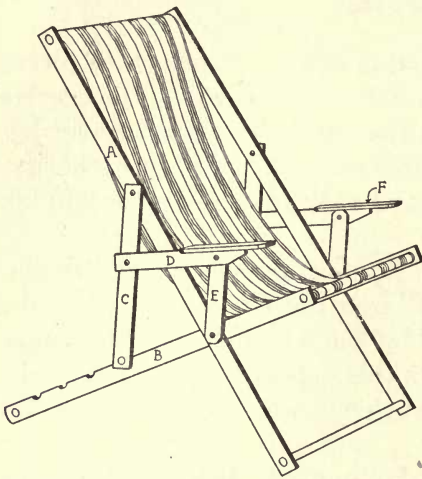

FIG. 37.—PORCH CHAIR ASSEMBLED.
6. **Assembling the pieces.** — (1) Fit and glue the rounds into *A* and *B* (Fig. 37). The distance between pieces *A* when fastened together should be 2' 3", inside measurements. The distance between pieces *B* should be 2' 3", outside measurements, as this pair must fit inside the first pair. (2) Fasten pieces *A*, *B*, and *E* together with the carriage bolts  $3\frac{3}{4}$ " long, heads outside. (3) Fit round to pieces *C* so that they are 2' 3" apart, inside measurements. (4) Fasten the other ends of pieces *C* to *A* with carriage bolts  $2\frac{1}{2}$ " long. (5) Fasten pieces *D* to pieces *C* with carriage bolts  $2\frac{1}{2}$ " long. (6) Fasten pieces *E* to pieces *D* with carriage bolts  $2\frac{1}{2}$ " long. (7) Fasten pieces *F* to pieces *D* with screws. (8) Fasten the canvas to the upper round of pieces *A* and *B* with heavy tacks, doubling under the canvas while tacking.